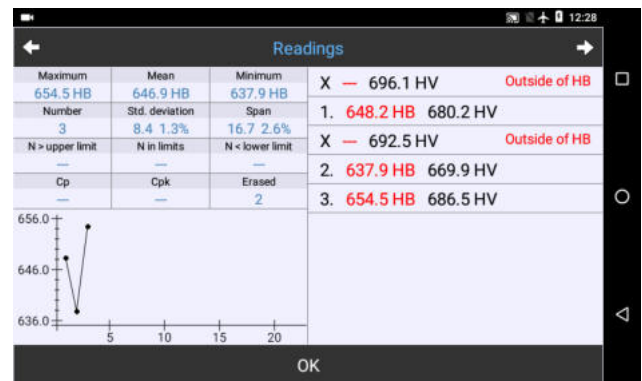

Figure 7.77
- No measuring value appears outside the extended conversion limits\*, but the message "**Outside HB**" (when the HB scale is selected) will be issued. These measured values will be marked as being deleted in the information menu, and displayed as dashes (**Figure 7.77**). The last valid measured value will be displayed upon the return to the measuring menu..